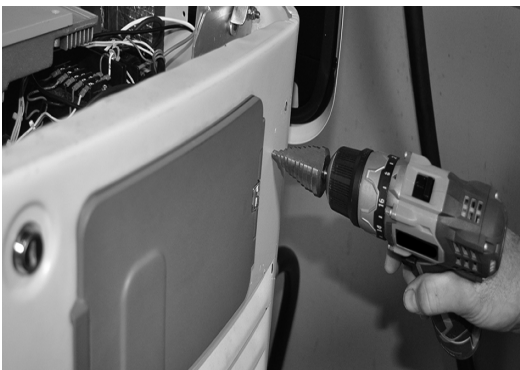

Figure 3-5. Drilling Mounting Hole
9. Using the template provided with these instructions, make a 1 1/8" hole just behind the breaker box. See Figure 3-5.